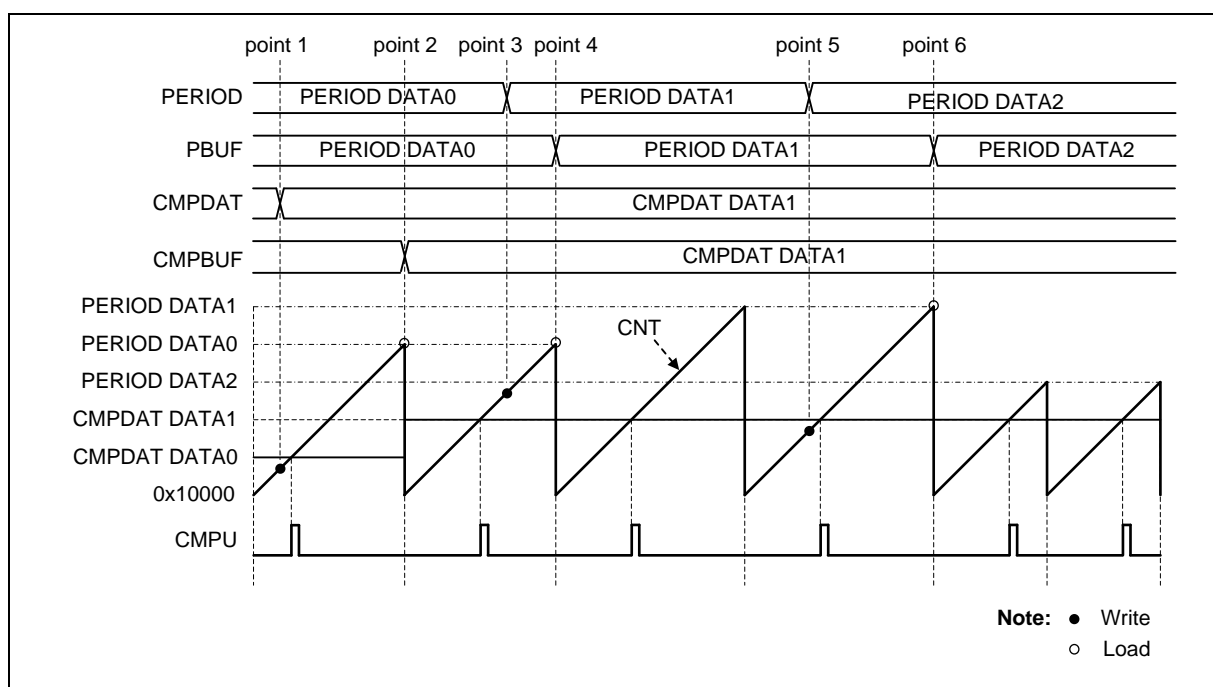

Figure 6.7-18 Period Loading Mode with Up Count Type
6.7-18 shows period loading timing of up count type, where PERIOD DATA0 denotes the initial data of PERIOD, PERIOD DATA1 denotes the first updated PERIOD data by user and so on, CMP also follows this rule. The following steps are the sequence of Figure 6.7-18.